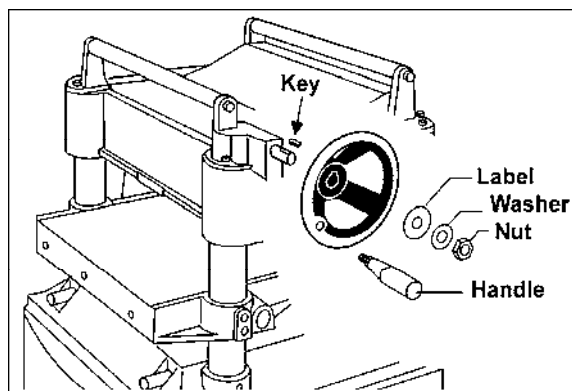

Figure 7
1. Place the key into the slot on the shaft (Figure 7), and mount the handwheel to the shaft, making sure it is oriented so it slips over the key.